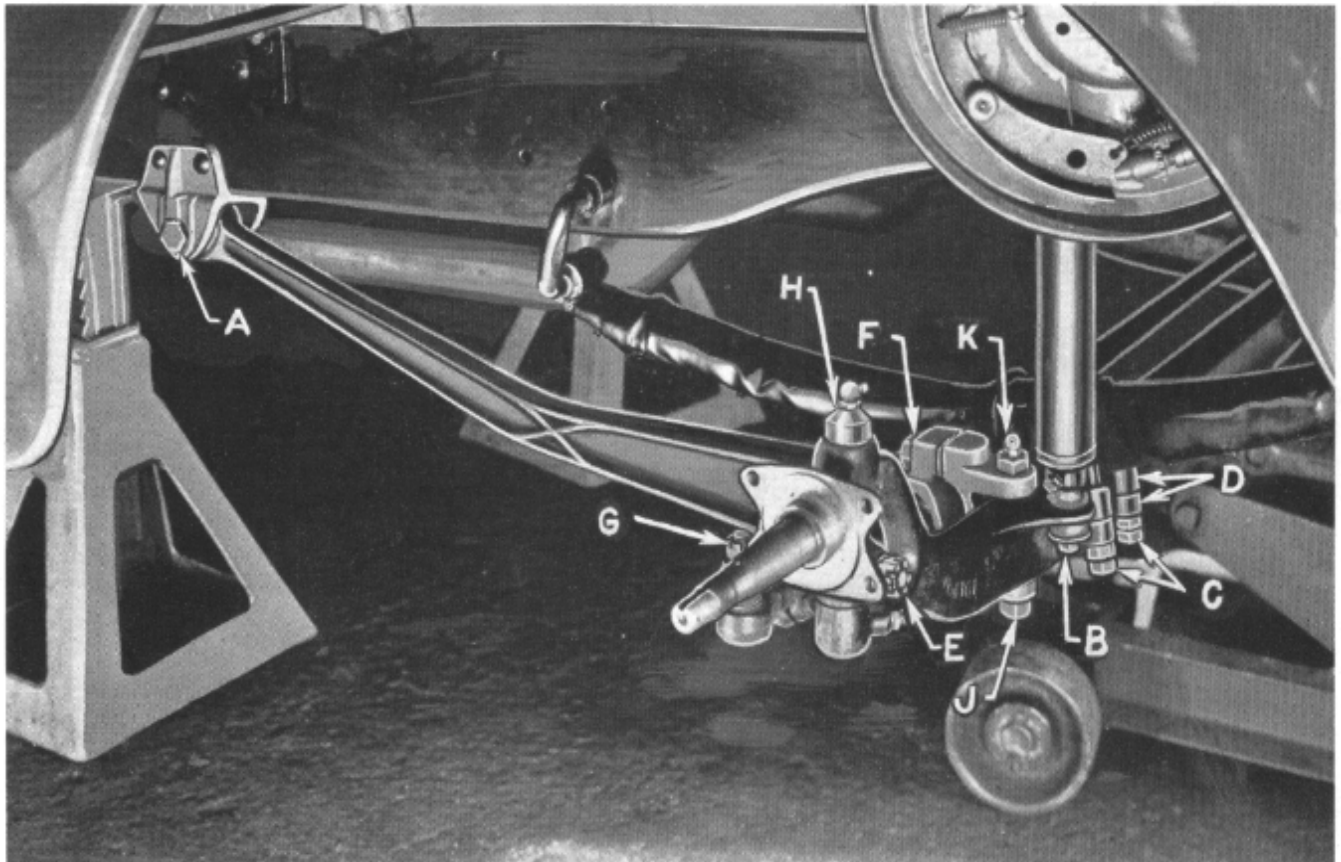

Figure 1
axle and place two stand jacks under the frame side rail just back of the torque arm frame brackets, Figure 1. Lower roller jack until car weight is held on stand jacks but leave roller jack in place to support front axle.
5. Remove brake backing plates and hang on fender supports with books made from heavy wire, Figure 1.
7. Remove nuts (B), Figure 1, grommet seats and grommets from bottom shock absorber mounting studs.
11. Remove tie rod end stud nuts (G), Figure 1, and disconnect tie rod from right and left steering arms.
12. Remove the cotter keys and nuts (E), Figure 1, from the front ends of the steering arms and remove the arms from the spindles.
13. Remove the Zerk oilers from the top of the pivot pin upper bushing (H), Figure 1.
23. Remove the torque arm pivot bolt nut (J), Figure 1, and unscrew* pivot bolt (K). Remove torque arm.
*NOTE: The bolt (K) is threaded into the bottom fork of the yoke on early production cars only.
24. Put torque arm yoke in place on axle and insert pivot bolt (K) and screw* into lower yoke, drawing up tight.
25. Put nut (J) on bolt and tighten securely.
29. Put spring U bolts and lower halves of spring seats in place and install nuts (C), Figure 1, on U bolts.
34. . Remove spring U bolt nuts (C), Figure 1.
35. Disconnect lower end of shock absorbers (B), Figure 1.